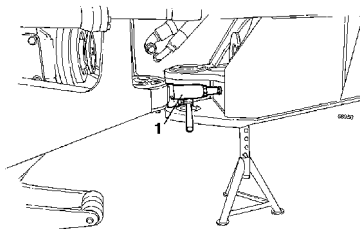

Figure 10
16. Press the rear frame rearward with the aid of a bottle-type jack, see Figure 10.